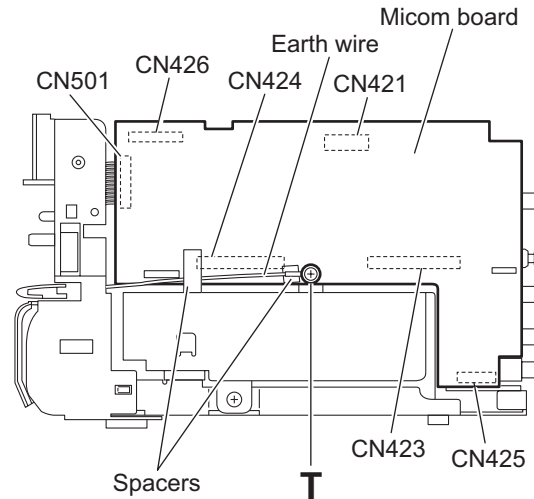

Fig.23
3.1.9 Removing the micom board (See Fig.23)